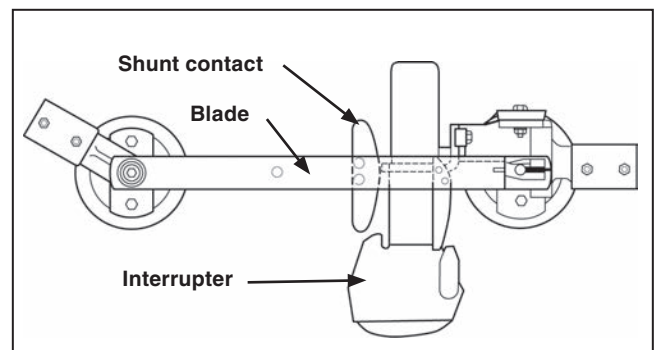

Figure 42. Blade assembly moving in the opening direction.
- (d) Move the blades in the *opening* direction and verify each blade shunt contact firmly engages its respective interrupter housing before the blade contacts disengage from the stationary main contact assemblies. See Figure 42. The shunt contacts may be bent as required to conform to these conditions.